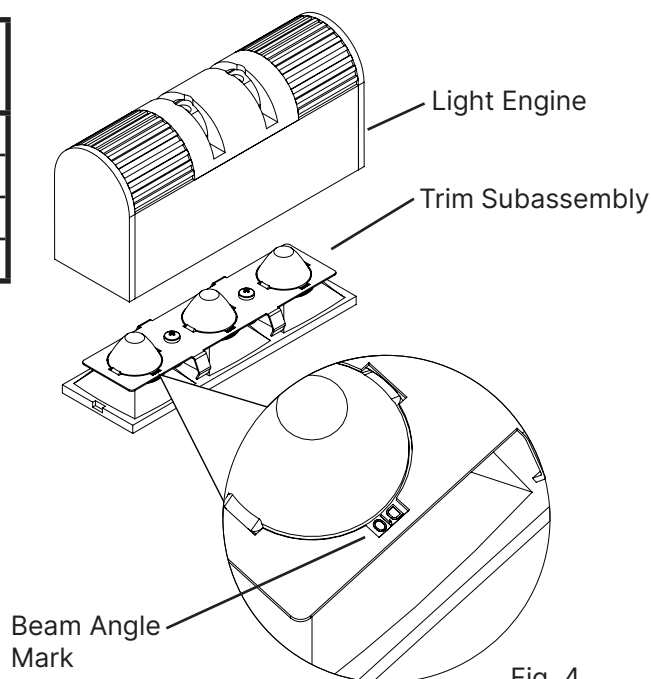

Fig. 4
1. Align **Trim Subassembly** with **Light Engine**. **Note:** **Beam Angle Mark** is visible on the **Trim Subassembly** (Fig. 4).